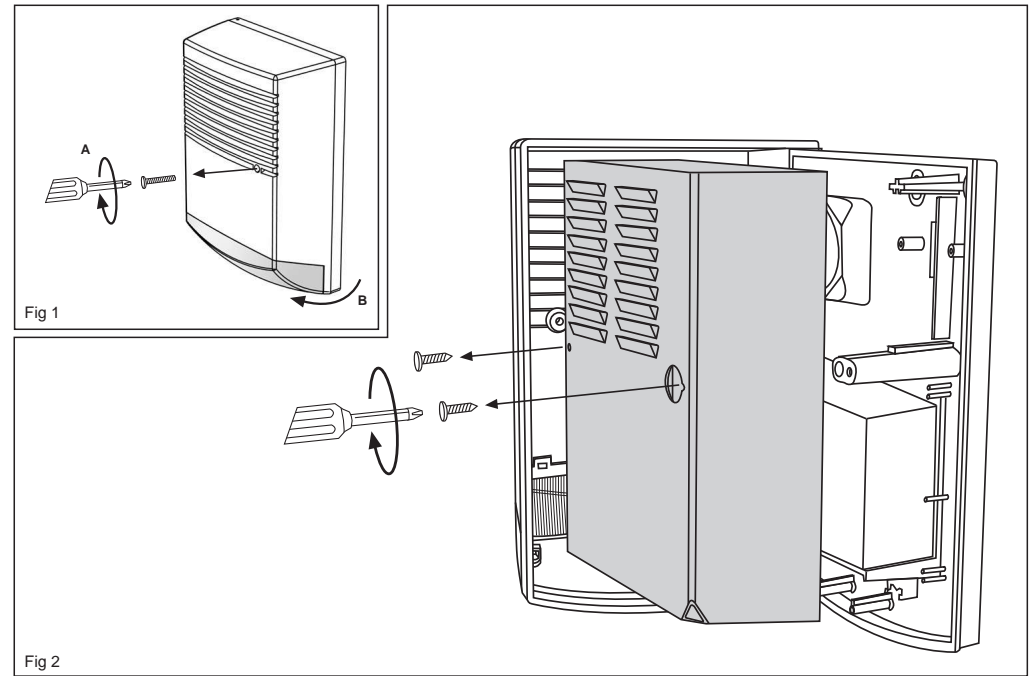

Fig 2
- Open the siren housing (1 screw on the front), fig 1 and remove the metal cover (2 screws), fig 2.
- Unplug the terminal (5) on the siren driver
- Connect the wires to the terminals (5).